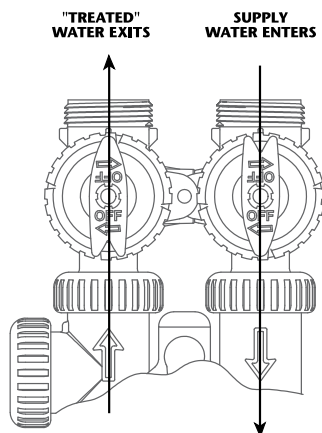

Figure 1
1. **Normal Operation Position:** The inlet and outlet handles point in the direction of flow indicated by the engraved arrows on the control valve. Water flows through the control valve for normal operation of a water softener or filter. During the regeneration cycle this position provides regeneration water to the unit, while also providing untreated water to the distribution system (*figure 1*).